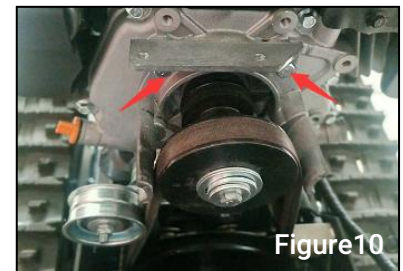

Figure 10
3. Remove belt rod by removing two screws. See Figure 10.